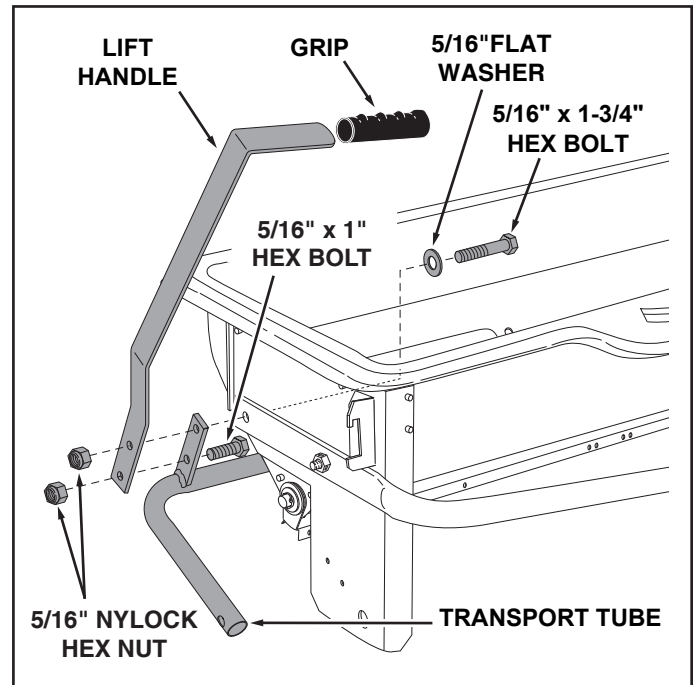

FIGURE 2
- Assemble the grip onto the lift handle. See figure 2.
- On the right side, insert a 5/16" x 1-3/4" hex bolt through a 5/16" flat washer and then through the rear hole in the hopper and the hitch tube. Assemble the transport tube and then the lift handle onto the bolt and secure with a 5/16" nylock hex nut. **Do not tighten yet.** See figure 2.
- Assemble a 5/16" x 1" hex bolt and 5/16" nylock hex nut to the bottom hole in the transport tube assembly and the lift handle. **Do not tighten yet.** See figure 2.
- Tighten, but do not overtighten** the two 5/16" x 1-3/4" hex bolts assembled in figures 2 and 3. The lift handle must be able to pivot.